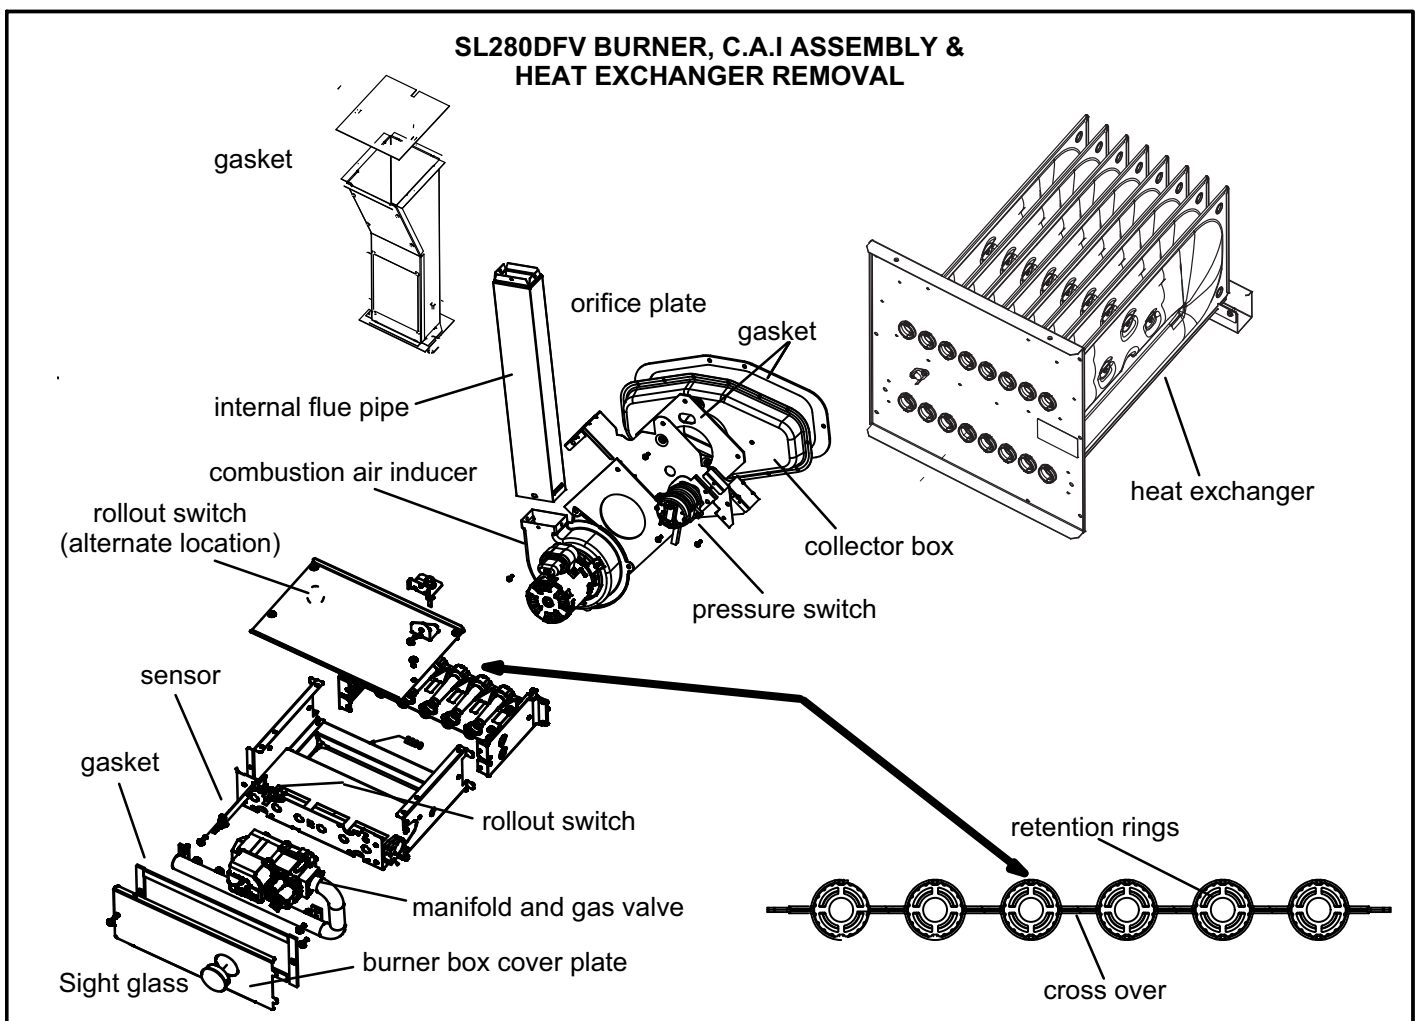

FIGURE 20
- 11- To clean burners, run a vacuum cleaner with a soft brush attachment over the face of burners. Visually inspect inside the burners and crossovers for any blockage caused by foreign matter. Remove any blockage. Figure 20 shows burner detail.